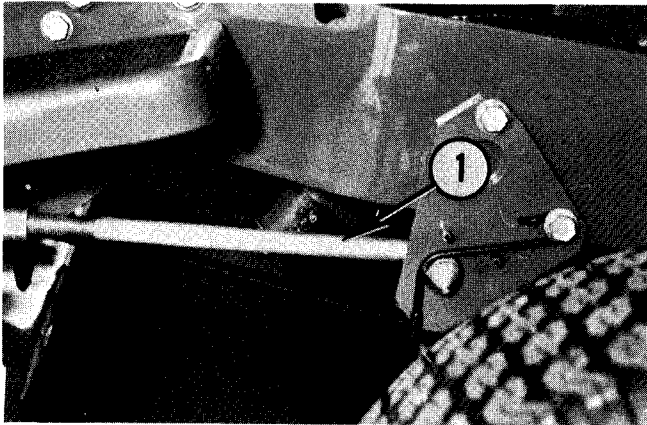

Fig. 47 — Attaching Mower
- 6. Adjust length of front lift links until the attaching points line up with the holes in front anchor plate, see Fig. 47.